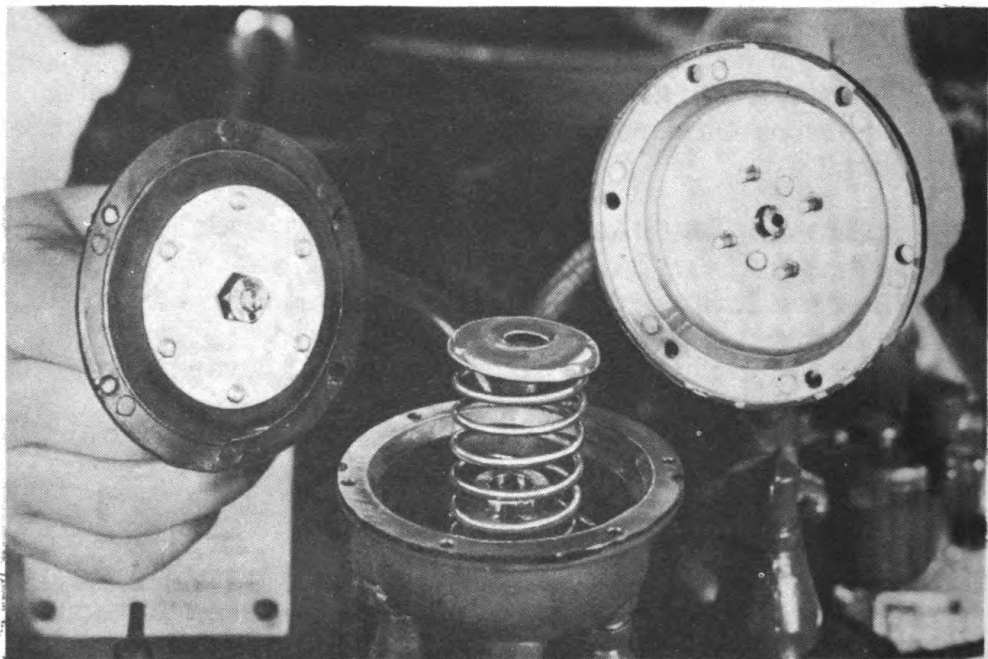

Fig 79. Disengaging diaphragm from underside of feed water regulator cover.
b. Disengage diaphragm from underside of cover by grasping stem and pulling, as shown in figure 79.
c. Remove stem by loosening hex nut which holds it to diaphragm. (Fig 79)